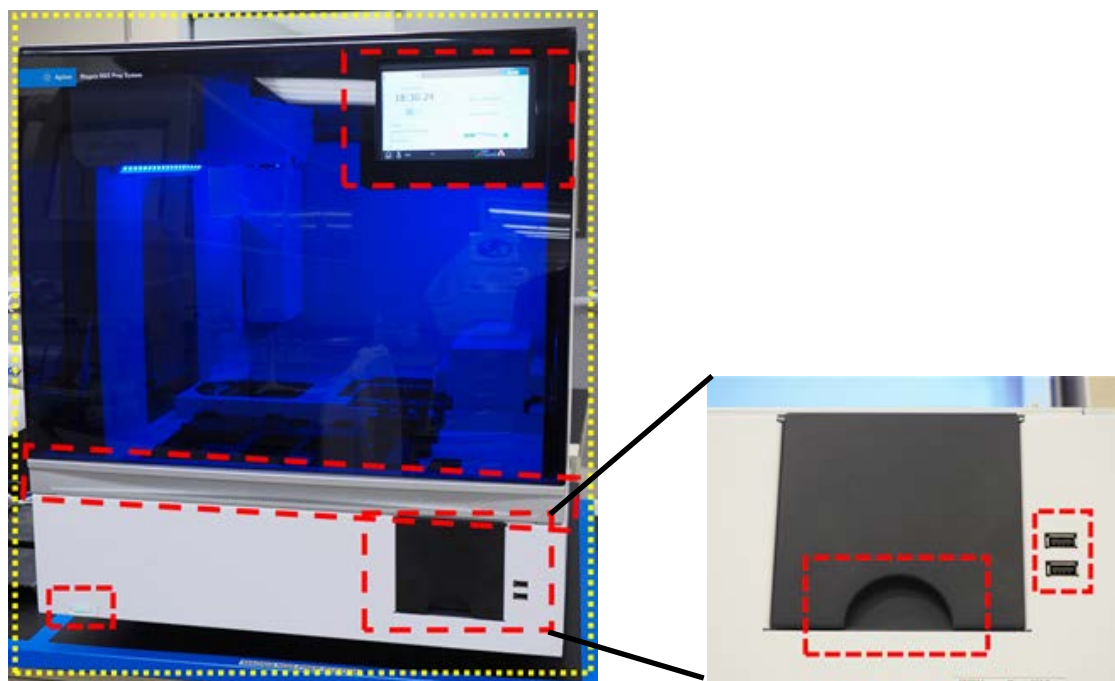

Figure 28 Exterior surfaces on the front of the instrument to be wiped down
- b Instrument Exterior - Front:** Close the instrument door. Using a laboratory wipe moistened with 70% isopropyl alcohol, gently wipe down the surfaces that are outlined in yellow and red in Figure 28. These areas include the touchscreen, power button, waste bin door (including depression used to assist in opening/removing), and the front plexiglass. Pull out the waste bin drawer and wipe down the interior of the waste bin. Wipe down the area around the USB ports (do not wet the electrical contact points). All areas outlined in yellow require wiping down. Areas outlined in red require particular attention for careful cleaning.